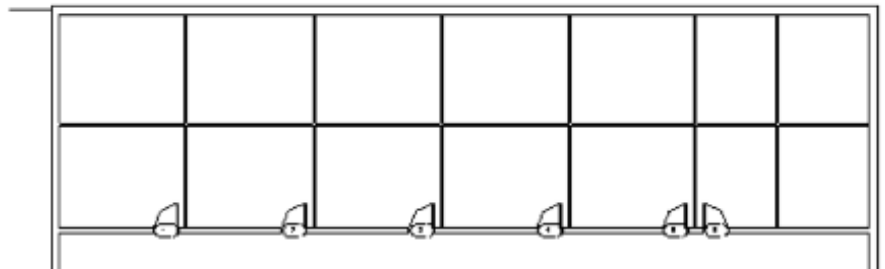

Figure 2-72
- Click  (Modify) and select the new horizontal wall that was created from the exterior wall. Change the wall to **Basic Wall: Interior - 138mm Partition (1-hr)**. The layout of the new walls should display as shown in Figure 2-72.